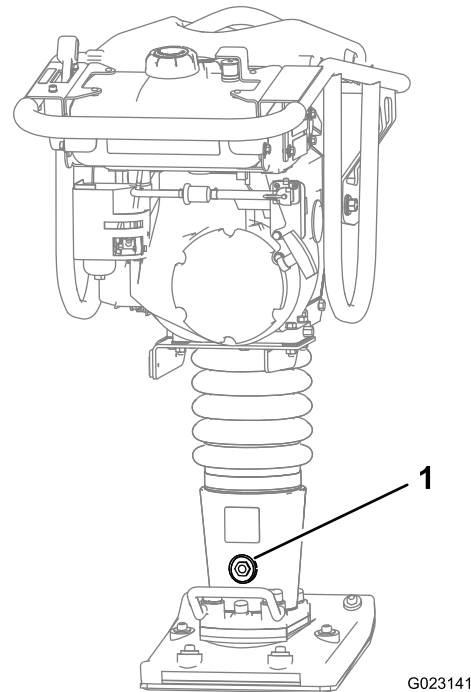

Figure 20
- Check the oil sight plug (Figure 20), and ensure that the oil level is halfway between the top and bottom of the oil sight plug.